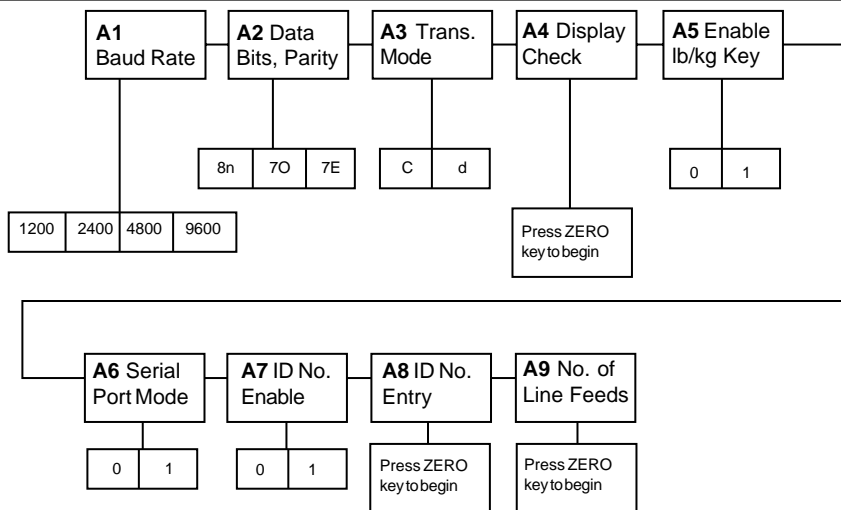

Figure 4: User Keyword Setup Mode Menu
- 3) The display will show "A 1" to indicate that the unit is in User Keyword Setup Mode. The front panel keys work exactly as in the System Keyword Setup Mode. See **Figure 4** for a map of this